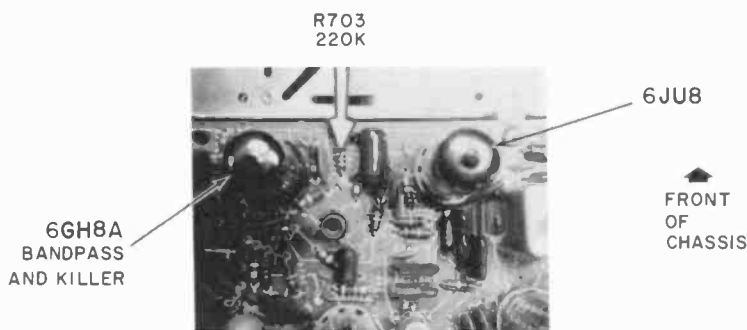

Fig. 402—Remember this test point at R703.
*Play the percentages*, in this case, means to check the most likely cause—the color killer—first. The fastest way to test the entire color-killer circuit is to remove all the killer voltage at the point it is applied to the bandpass amplifier. Ground the rear end of R703 (220K) as shown in Fig. 402. Now you should see "confetti," normal color, or the stripes of out-of-lock color, if the killer had been biasing the bandpass tube to cutoff. Check the killer and killer-detector voltages carefully if